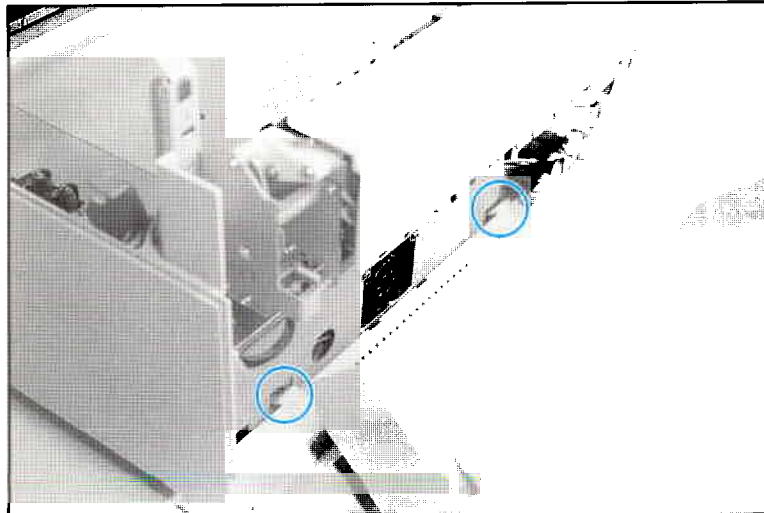

Figure 6-10
- b. Tilt the top of the cover away from the printer (see Figure 6-10).